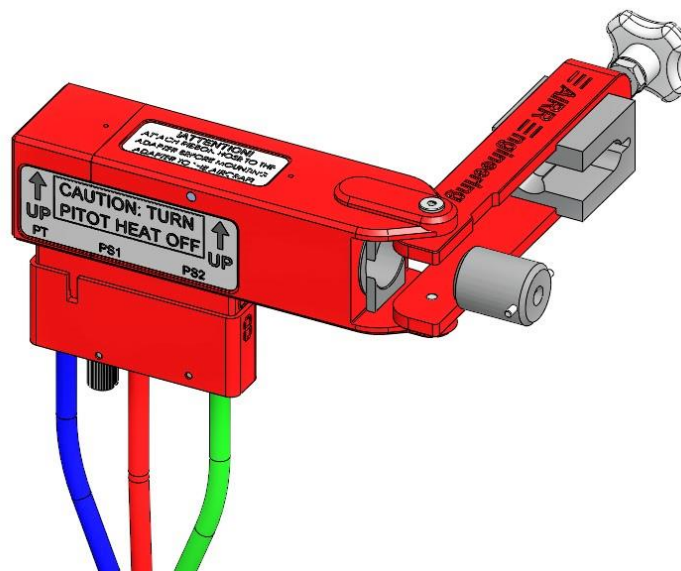

Figure 2: adapter cam handle in the open position pointing away from the fuselage, pusher retracted
- B. Press the hose connector onto the adapter connector port and tighten the center retaining screw. Place the adapter cam handle in the open position. Retract the pusher by rotating the knob counter-clockwise until it comes to a soft stop. Remove the round black dust plug from the adapter opening (Figure 2).